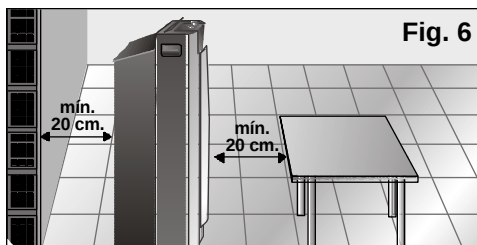

Fig. 6
- ☐ For safety reasons, the appliance must be at least 20 cm away from any nearby surface before it is turned on. **Fig. 6**.